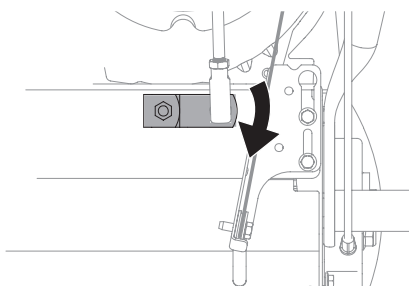

Figure 2-61
3. Pivot shift bracket downward as far as it will go. See Figure 2-61.